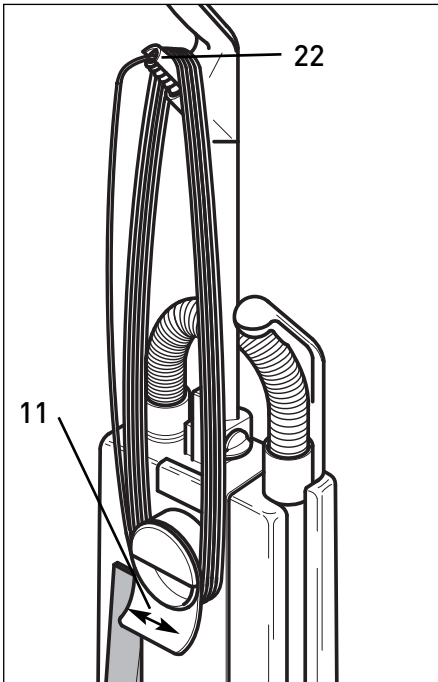

Figure 1
Starting The Machine - Figures 1 & 2
1. Turn the quick release cable hook (11) to the up position by moving it to the left or right (figure 1).
2. Release the power cord plug from the power cord and lift the cord off of the upper cord hook (22 - figure 1).